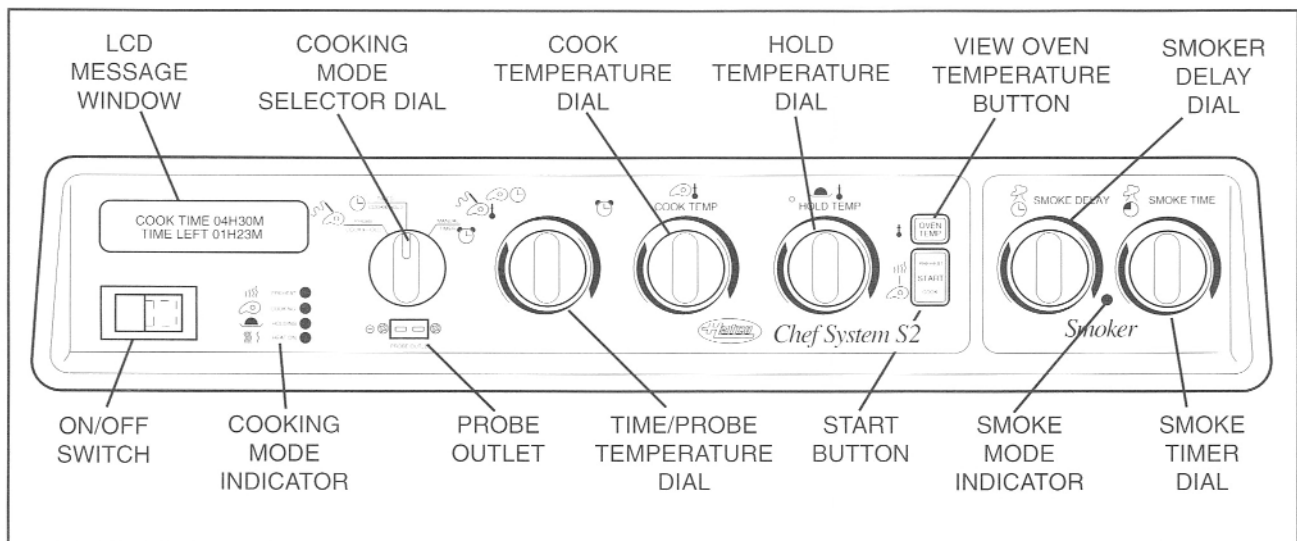

Figure 7. Control Panel
2. Turn the ON/OFF Switch to the ON position. See Figure 7.